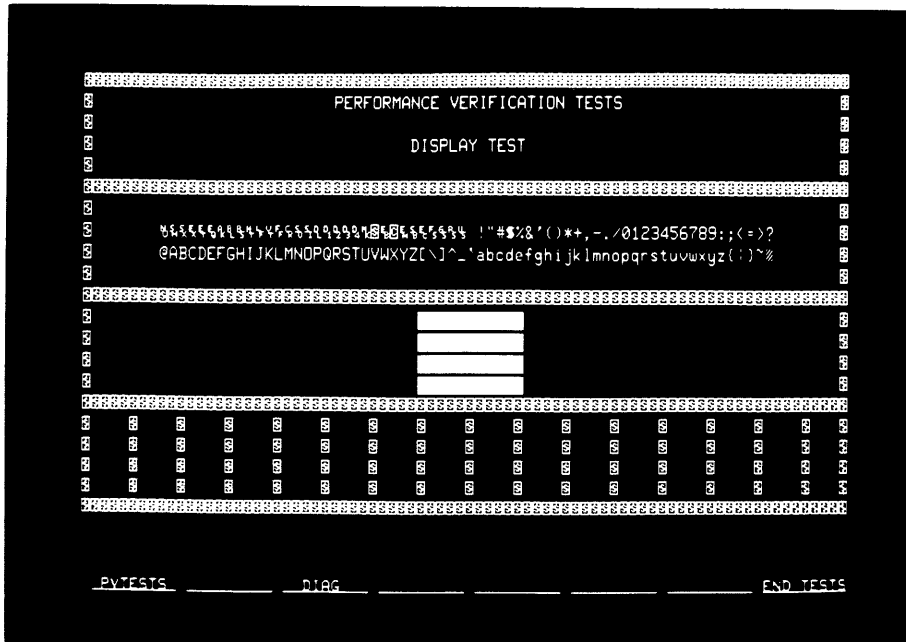

Figure 2-6. Display Test
There are two methods of conducting the Performance Verification tests. One method is to set the SYSTEM CONTROL SOURCE switches on the rear panel of the instrument for PERFORMANCE VERIFICATION (11). Turn the development station power ON. There will be a loud beep the instant that power is switched on. Several additional beeps will be heard and a display pattern shown in figure 2-6 will become visible.